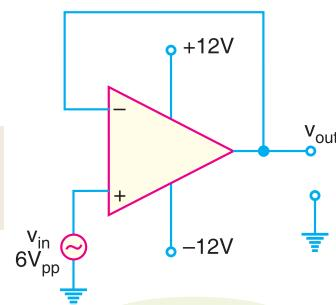

Fig. 25.62
**Example 25.37.** Fig. 25.62 shows the circuit of voltage follower. Find (i) the closed-loop voltage gain and (ii) maximum operating frequency. The slew rate is 0.5 V/ $\mu$ s.